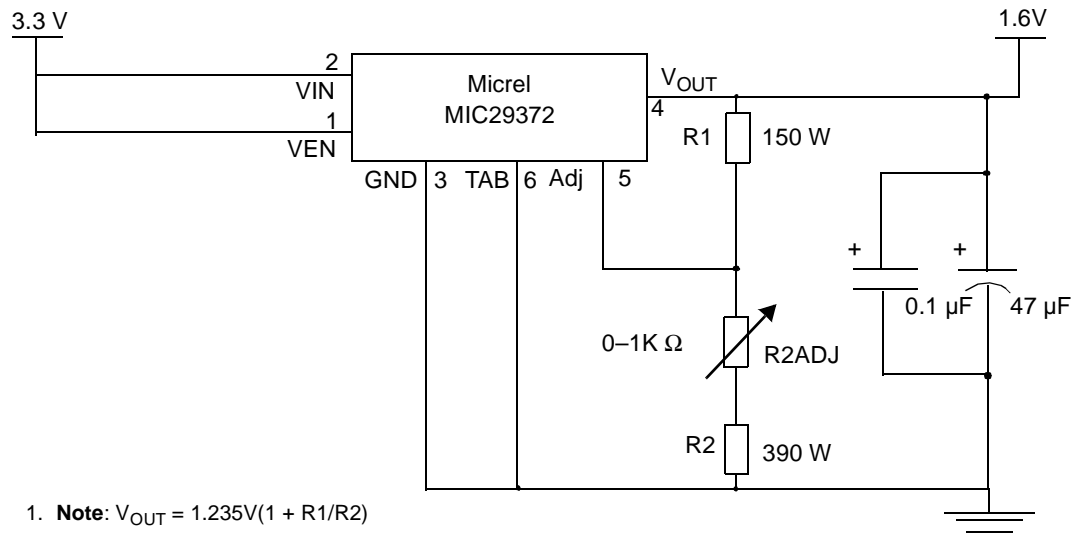

Figure 1. Core Power Supply Using Adjustable Linear Regulator
- *Suggested power supply design.* One of the most common ways to derive power is to use either a simple fixed or adjustable linear regulator. For the system I/O voltage supply, a simple fixed 3.3V supply can be used. However, a separate adjustable supply for the core voltage V_{DD} should be implemented. As **Figure 1** shows, an adjustable linear regulator supply can be used. To support future MSC8103 silicon revisions with lower core voltages for lower power, V_{OUT} can be adjusted by modifying the values of R_{2ADJ} . In the example shown in **Figure 1**, $R_1 = 150 \Omega$, $R_2 = 390 \Omega$, $R_{2ADJ} = 0\text{--}K\Omega$ generates an output voltage of 1.36–1.7 V.